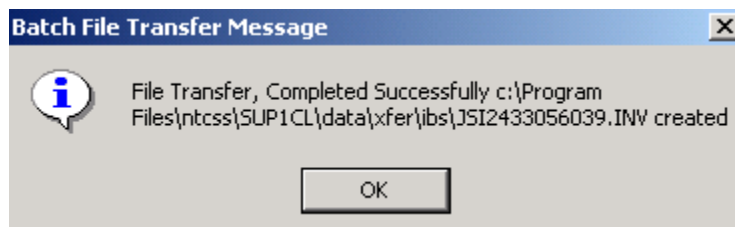

Figure C2
- g. Click on APPLY a message similar to (File Transfer, Completed Successfully, c:\program\ntcss\sup1cl\data\xfer\ibs\JSI2431197010inv created) will appear, click OK to continue. (FIGURE C2)